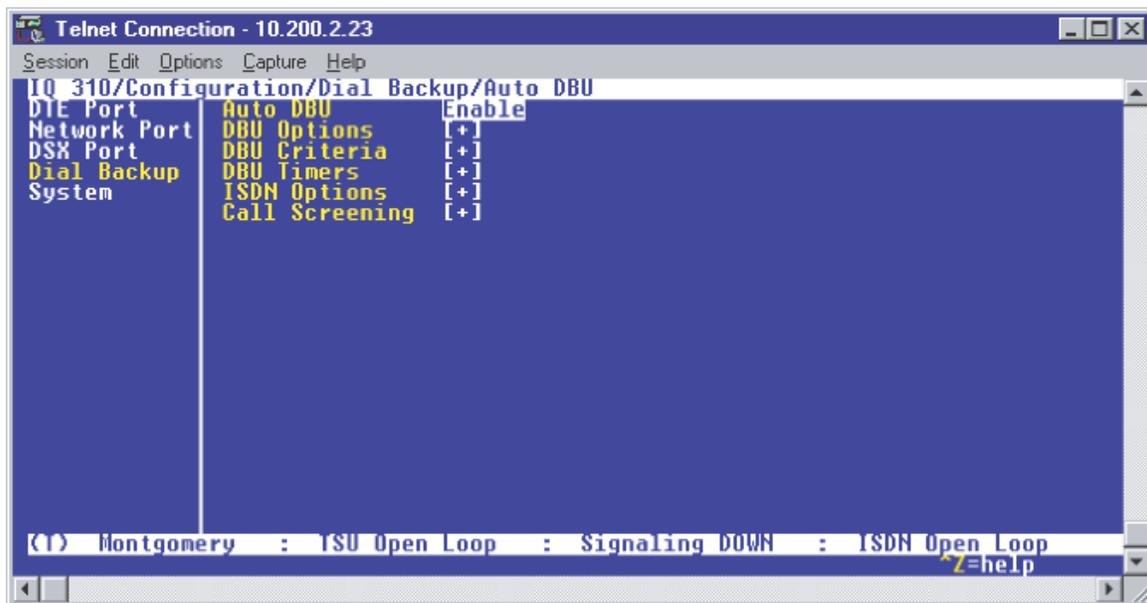

Figure 35. Auto DBU Enabled
4. Use the down arrow to select **ENABLE**; then press **<ENTER>**. At this point, the **AUTO DBU** parameter will change to **ENABLE** and the screen shown in Figure 35 will appear.